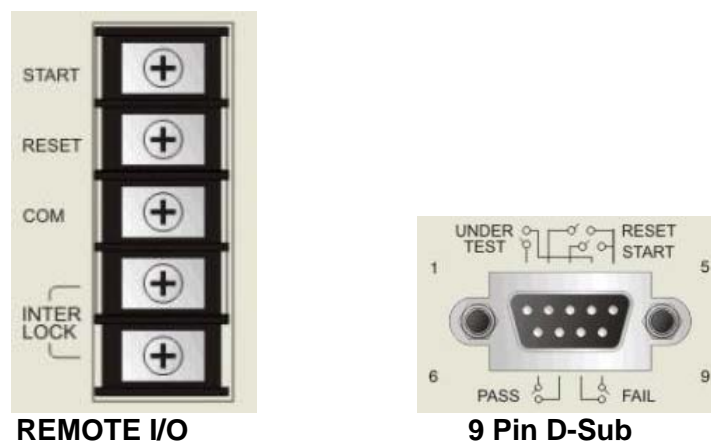

Figure 2-4
- Pin diagram of REMOTE CONTROL as Figure 2-4. When users to control by external, please remember this pin diagram.